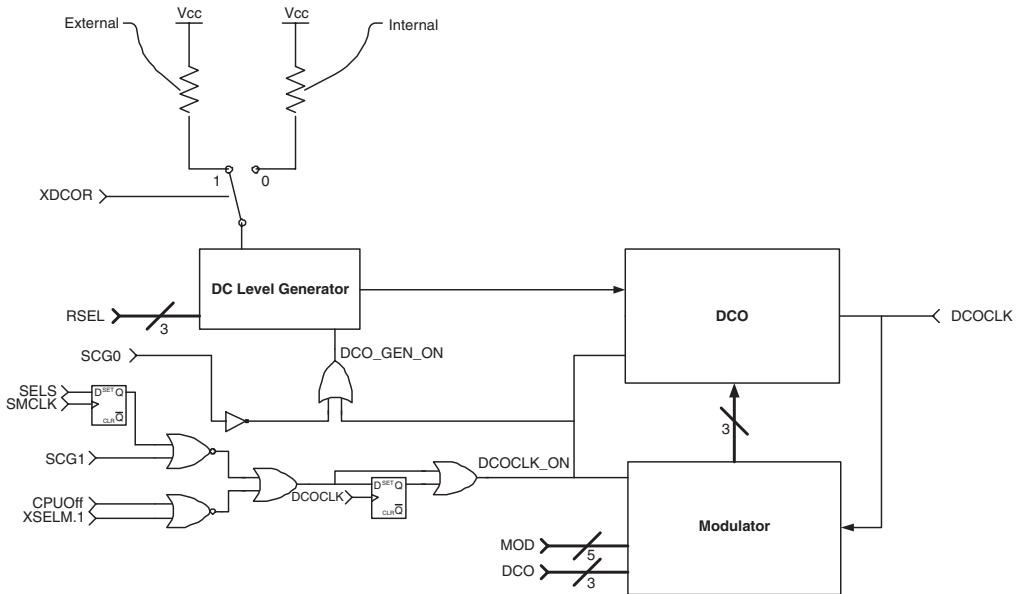

Figure 4.5: '1xx Series Digitally Controlled Oscillator
- Control Bits. See Figure 4.5 for the logical function of various CPU flags in enabling and controlling the DCO.